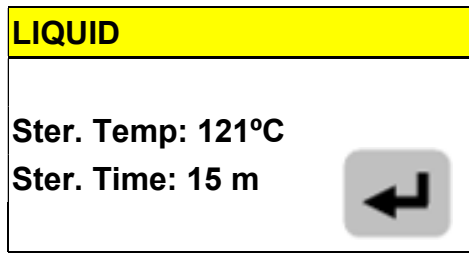

Figure 69
G. Press  or  button until as shown in Figure 69.